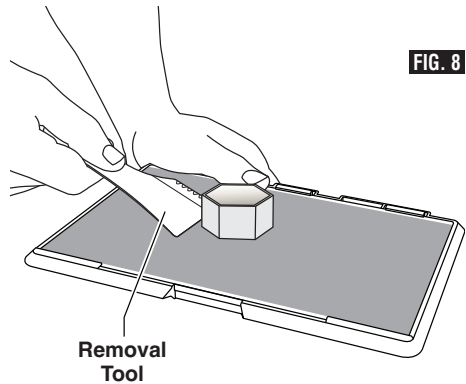

FIG. 8
3. Peel your object from the build platform. If needed, gently use the object removal tool to remove object from build platform (figure 8). If desired, remove the build tape from the build platform while separating the object from the build platform. The build tape can then be removed from the object.
Use the unclogging tool to clean the extruder and unclog built up filament, fig 8.